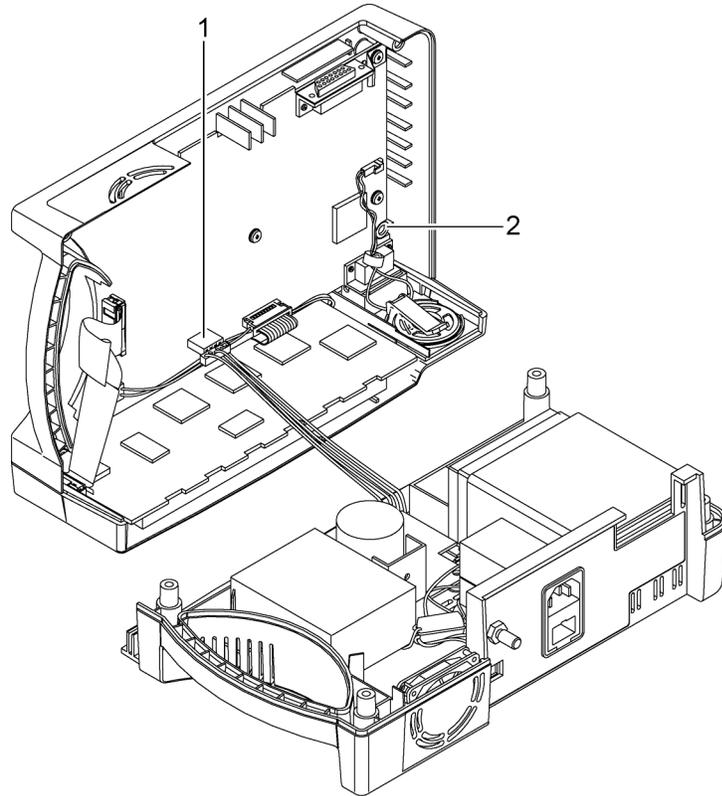

Figure 2: Separating Case Halves
6. Separate the monitor's top case from the bottom case of the monitor, being careful not to stress the wire harnesses between the cases. Place the two halves of the monitor on the table as shown in Figure 2.
7. Disconnect the main PCB to power supply cable from the main PCB. See Figure 2 item 1.
Caution: Pinched speaker wires. Ensure that the speaker wires are routed away from the case mounting screw hole. See Figure 2 item 2. In some instances the speaker wires have been pinched between the two cases, causing them to break. Check all wiring, ensuring that the wiring does not get pinched.